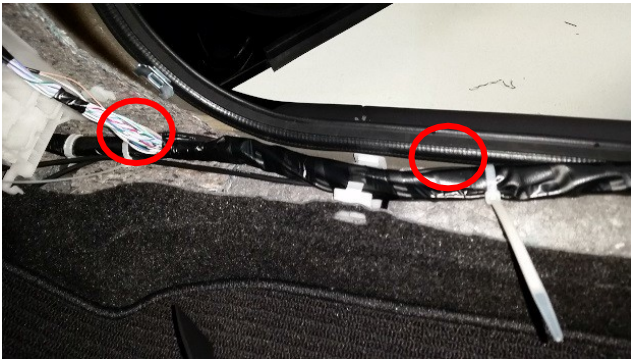

Figure 29
28. Route harnesses along factory harnesses towards the kick panels and secure with wire ties. Figure 29.